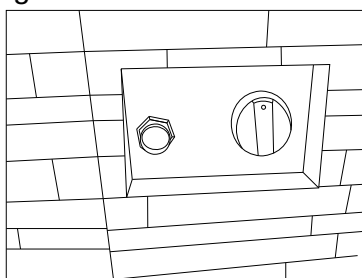
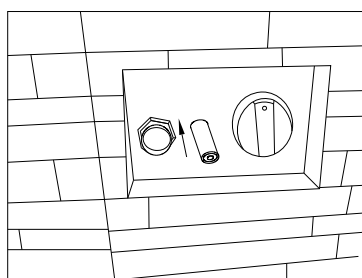
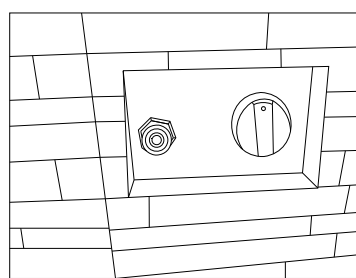

Fig 1
Fig 2
Fig 3
- 3- Unscrew the pulse electronic igniter button as shown in Fig 1. Insert the negative electrode side of the battery into the bottom of ignition knob as shown in Fig 2. Then screw the ignition knob as shown in Fig 3.